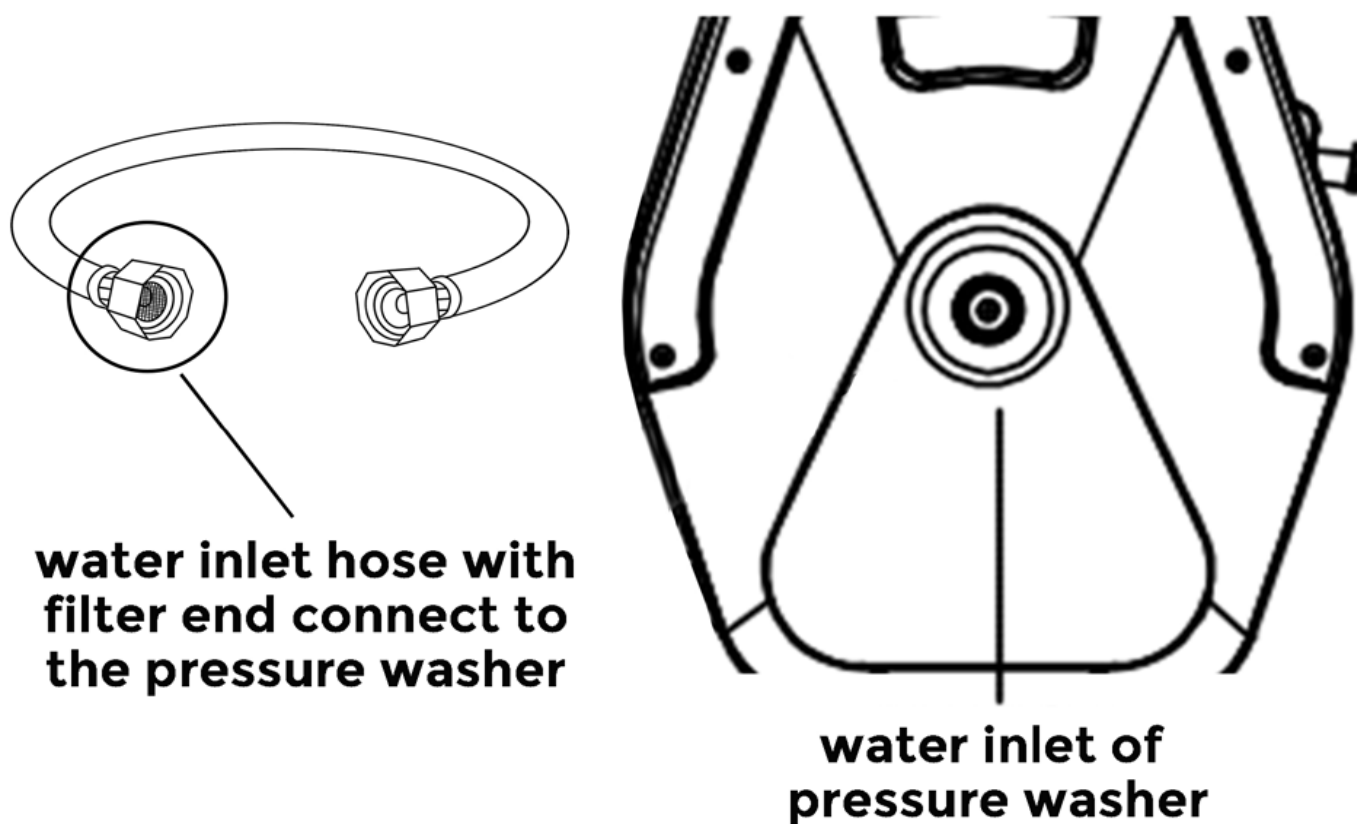

Figure 7: Water Inlet Hose Connect
4. Connect the water inlet hose (end with filter) to the water inlet end of the pressure washer by hand and tighten it by hand (Please make sure that there is no debris blockage on the filter side of the water inlet hose). See figure 7.